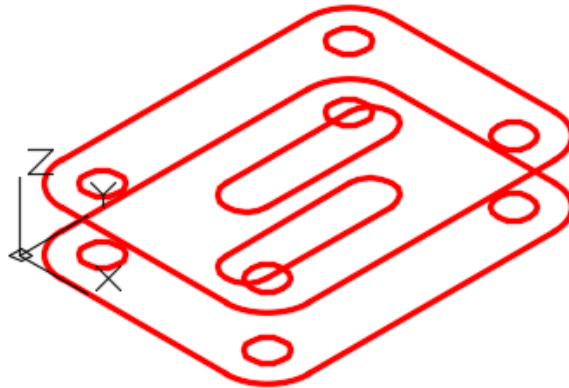

Figure Step 4
Step 4 Draw the wireframe model of the multiview drawing. (Figure Step 4)